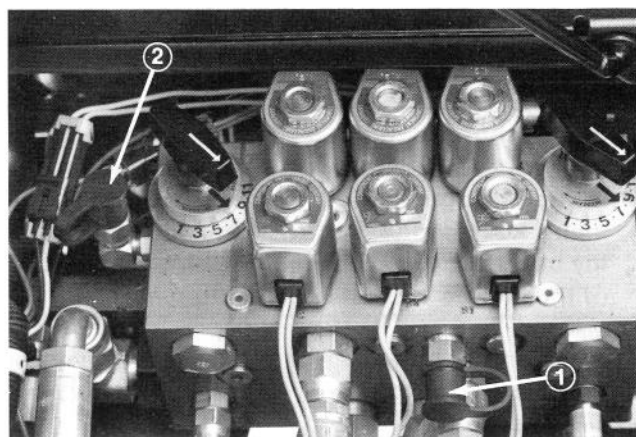

Figure 60
HYDRAULIC SYSTEM TEST PORTS (Fig. 60)
4. Rotate inner locknut, clockwise, until distance between inside of eye bolt loop and inside of spring anchor plate is shortened 1/8", as shown in figure 60. Tighten hex nut.